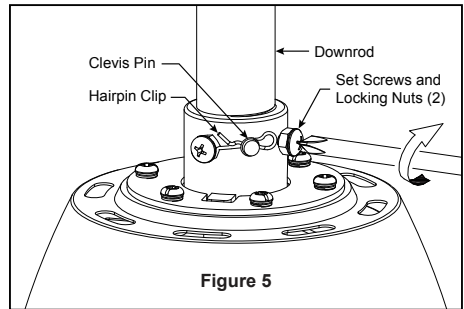

Figure 5
5. Thread downrod into the downrod support on top of the motor. Install the clevis pin by aligning the holes in the downrod support with holes in the downrod. Secure clevis pin with hairpin clip. Tighten the two set screws with nuts in the downrod support. Securely tighten the set screws with screwdriver then fully tighten the nuts by hex wrench. (Figure 5)
4. After connections have been made, put the white and green leads to one side and the black leads towards the other side, the connection should be turned upward and carefully push leads into the outlet box. The wires should be spread apart with the grounded conductor and the equipment-grounding conductor on one side of the outlet box and the ungrounded conductor on the other side. (Figure 5)